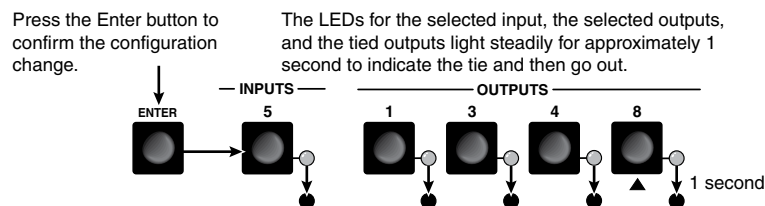

Figure 3-11 — Press the Enter button
4. Press and release the Enter button (figure 3-11).